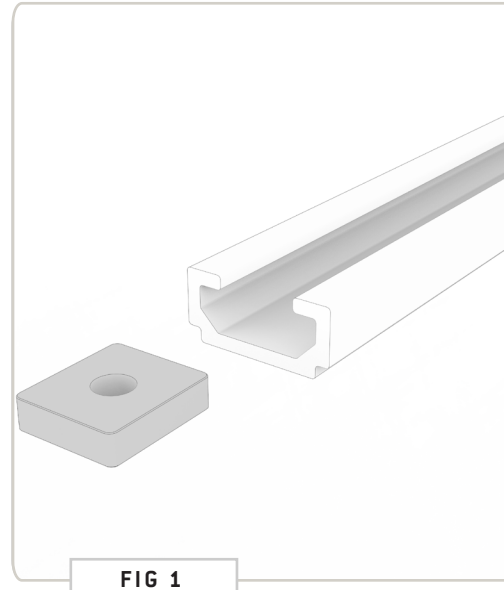

FIG 1
**1.1 Install Rail Nuts:** Slide half of the **Rail Nuts** into the passenger side factory roof rail, and the half of them into the driver side rail (**FIG 1**).